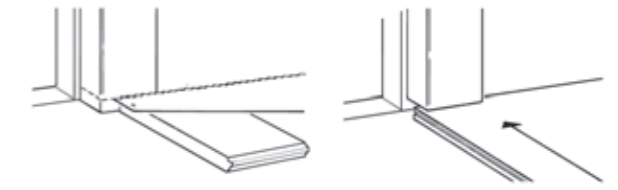

Fig 10 Cut bottom of architrave to panel's height and slide panel under
- When laying panels around architraves, cut the bottom of the architrave to allow the panel to slide underneath (see Fig 10). You may find it easiest to make this cut using a panel off-cut as your guide.